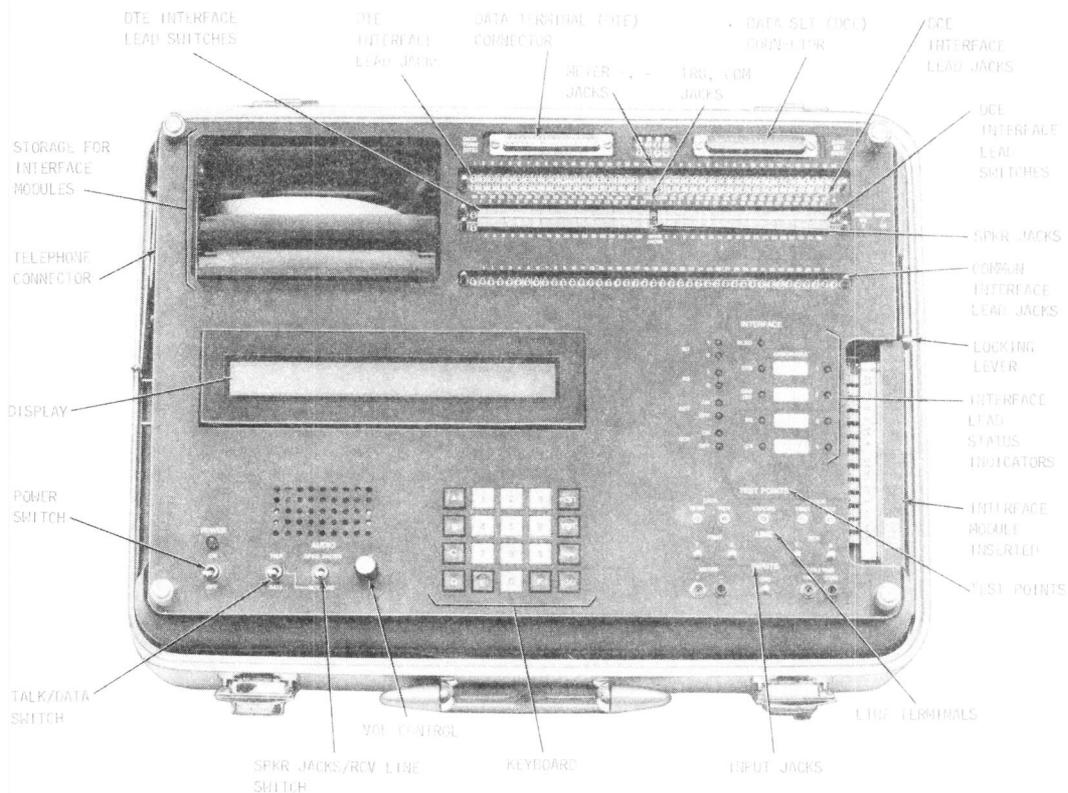

Fig. 1—921A Data Test Set—Front Panel
1.04 The 921A DTS (Fig. 1) is a portable, general purpose data test set that provides the serial testing capabilities of the 914C DTS and is compatible with the 914C DTS for the testing of serial data sets. The 921A DTS also provides additional testing capabilities that are described in Section 107-402-100. Input to the 921A DTS is made through a 20-button keyboard. A 32-character display provides operator prompting and test results.